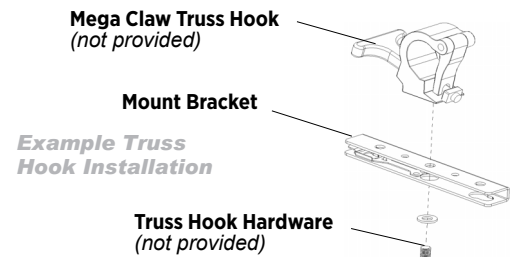

FIGURE 9: TRUSS HOOK
Step 1. Install truss hooks on two provided truss hook brackets as required as shown in Figure 9.